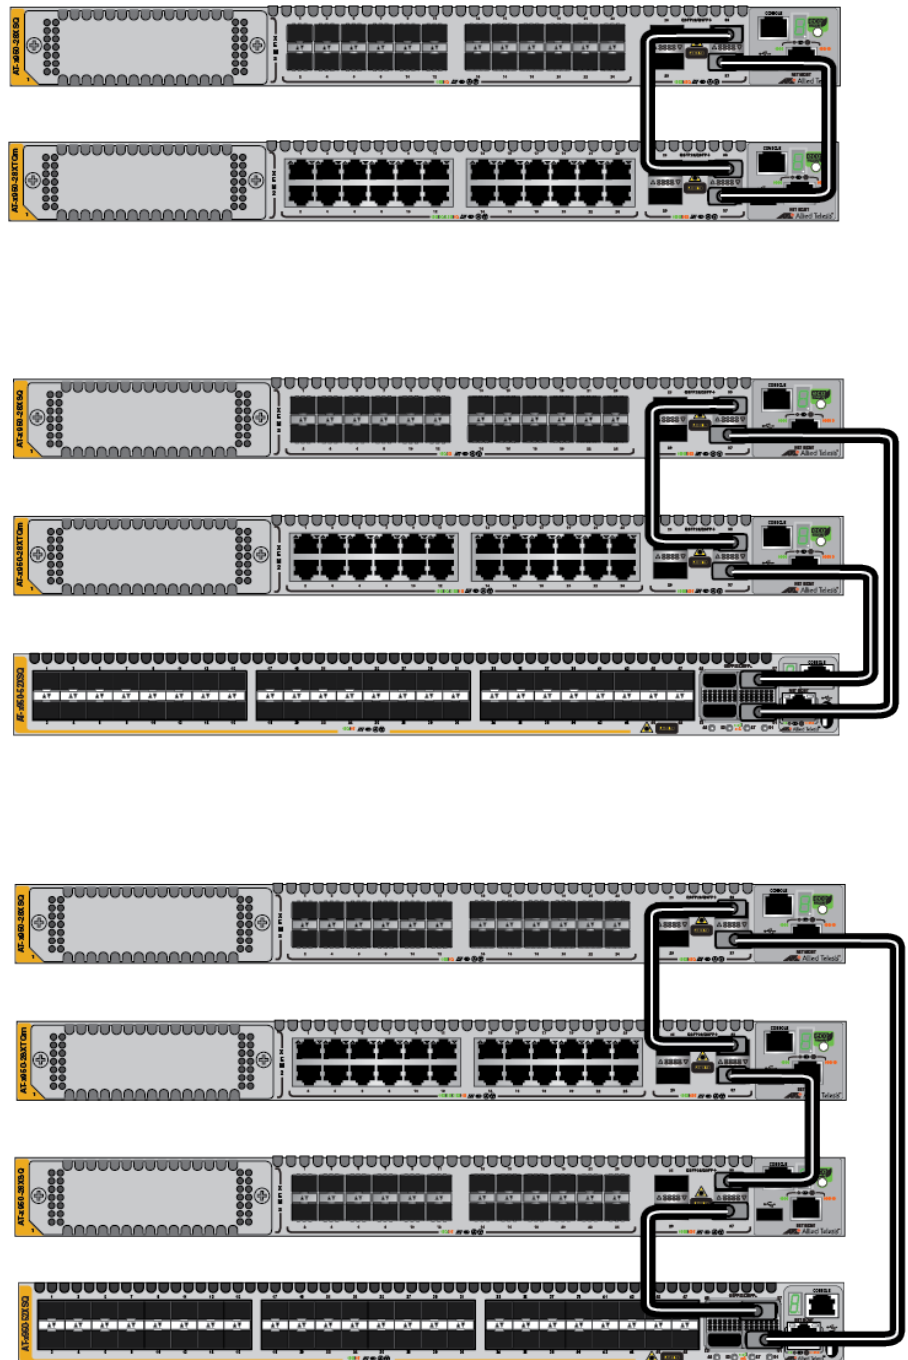
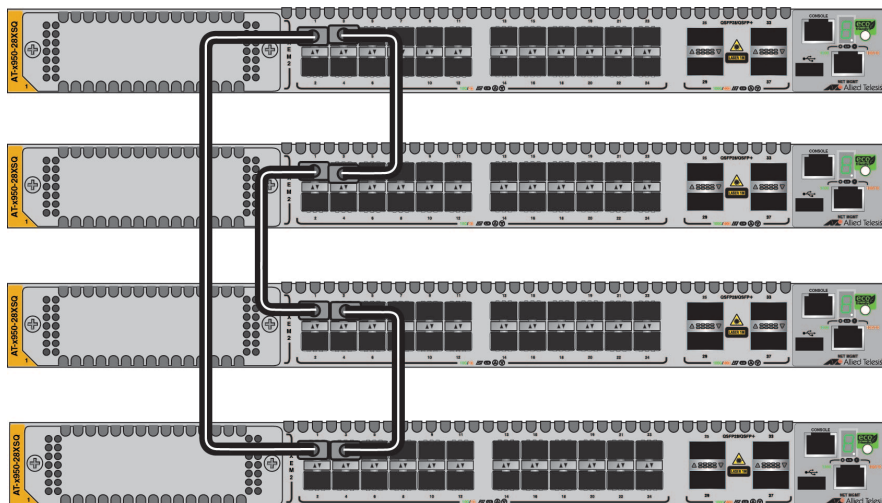
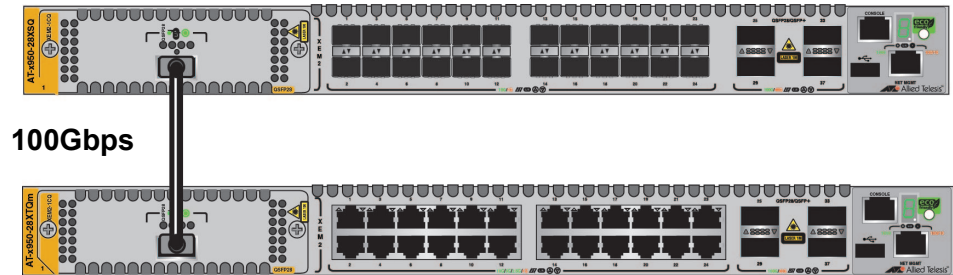

Figure 32. Stack Trunk Examples with 100Gbps Links
Figure 40. Unsupported Trunk with Only One Link Between Switches
Figure 42. Not Recommended Stack Trunk of XEM2-1CQ Line Cards
- ❑ Figure 32 illustrates stacks of two, three, and four switches, with ports 33, 37, 57 and 61 and 100Gbps links as the trunks.
- ❑ In most cases, trunks should have a minimum of two links between switches. The trunk in Figure 40 is not recommended because there is only one link between switches. The exceptions to this are stacks of three or four switches with trunks of base 100Gbps ports. Refer to Figure 32 on page 81.
- ❑ Allied Telesis does not recommend using the XEM2-1CQ Line Card for a stack trunk because it has only one transceiver port and the switch has only one expansion port. Refer to Figure 42 on page 87. Instead, use two base 40/100Gbps transceiver ports, as shown in Figure 32 on page 81, to build a 100Gbps trunk.